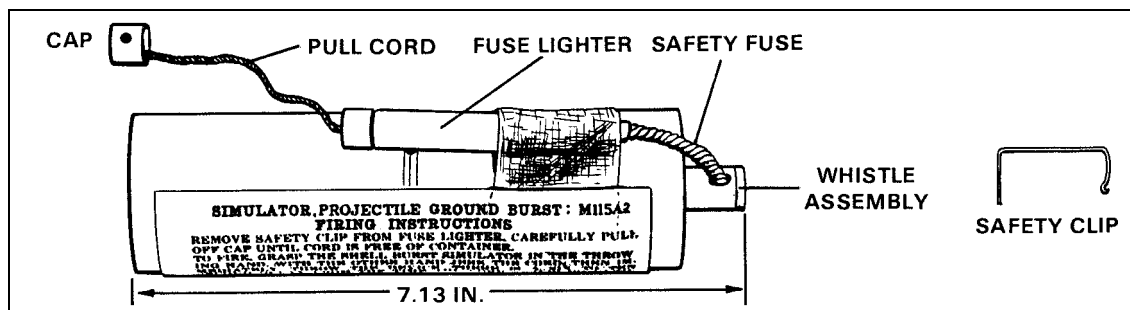

Figure 5-5. M115A2 simulator.
b. The ground burst simulator, M115A2, (Figure 5-5) is used to create battle noises and flash effects during training. It produces a high-pitched whistle that lasts 2 to 4 seconds. The detonation produces a flash and loud report.